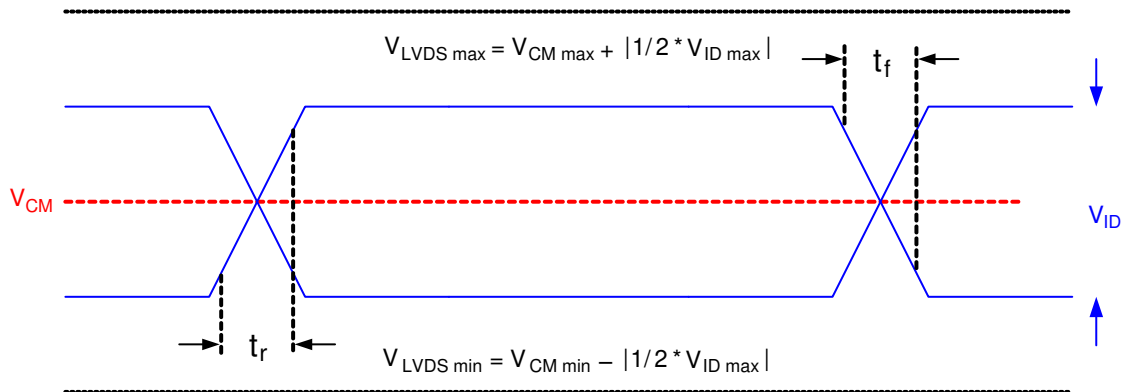

Figure 6-5. LVDS Waveform Requirements
- (8) See 図 6-5 LVDS Waveform Requirements.
- (9) Simultaneous exposure of the DMD to the maximum セクション 6.4 for temperature and UV illumination reduces device lifetime.